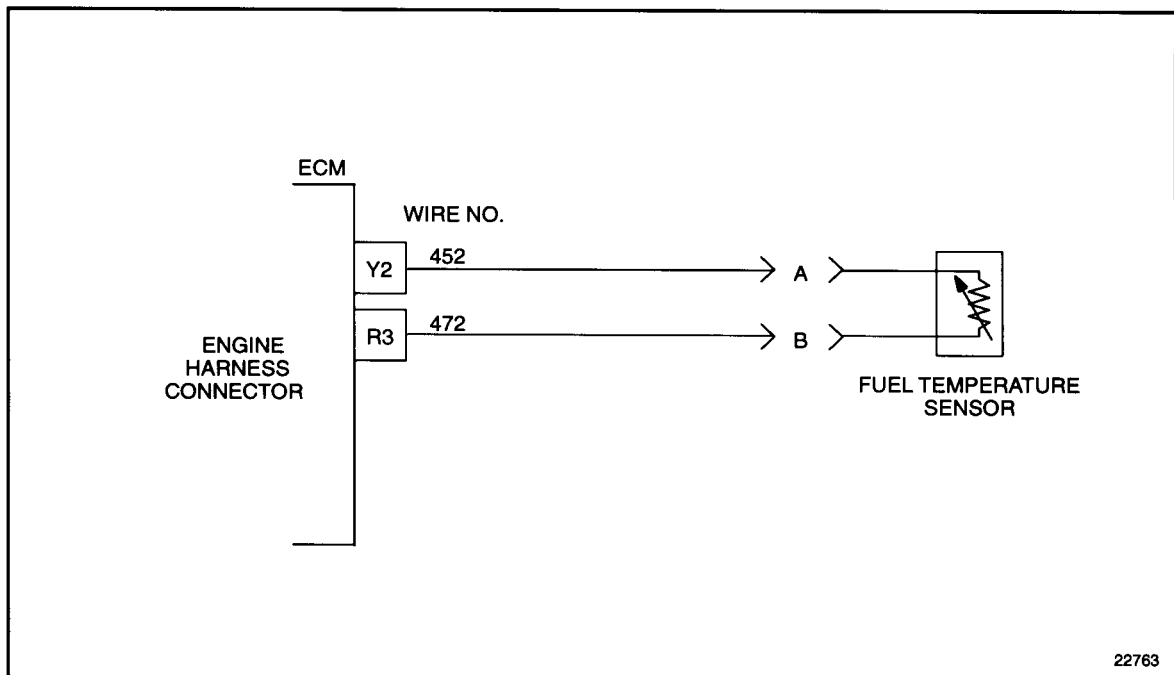

Figure 24-3 Engine Harness Connector
3. Measure resistance between sockets R3 and Y2 on the engine harness connector. See Figure 24-3.